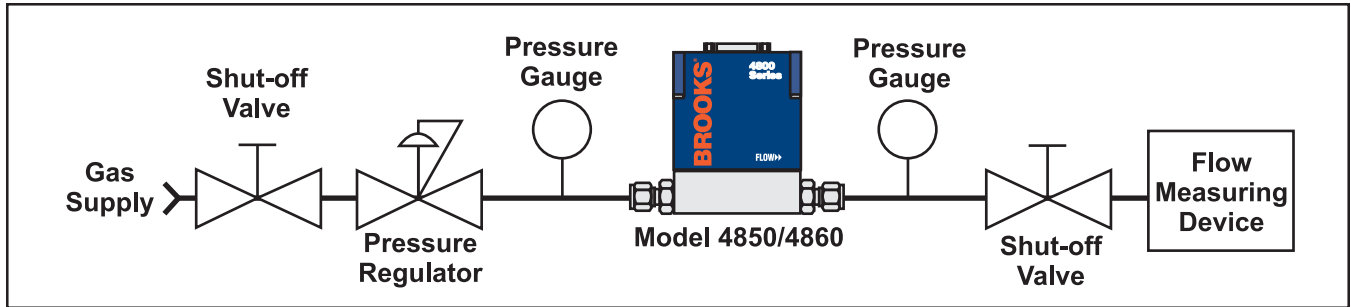

Figure 4-1 Bench Troubleshooting Circuit
1. Establish a proper connection between the Brooks 4800 Series Mass Flow Meter or Controller (using Figure 4-1 as a reference). Switch on the power and allow the instrument to warm-up for 15 minutes. In case of a Controller model, adjust the Setpoint to zero. Do not connect the device to a gas source yet. Observe the output signal and, if necessary, perform the zero adjustment procedure (see Section 3 for information about the zeroing function). If the output signal does not zero properly, please contact Brooks Instrument.